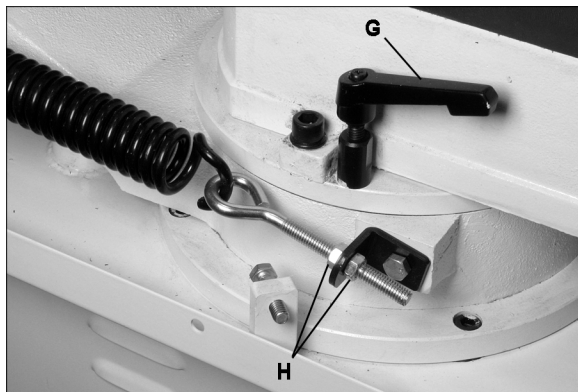

Figure 17
1. Loosen handle (G, Figure 17).
5. If adjustment is needed, loosen one nut and tighten the other (H, Figure 17) on the eye bolt until scale indicates 5 to 6 kg.